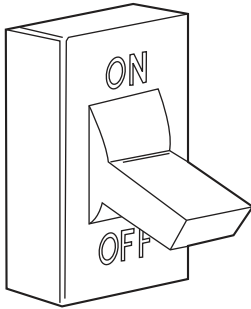

Fig. 9 – Turn Off Electrical Supply
3. Turn OFF electrical supply to the furnace (see Fig. 9).